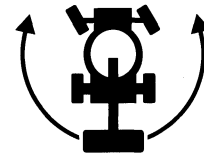

figure 1
- 34 Rotate the turntable until the boom moves past one of the non-steering wheels (figure 1).